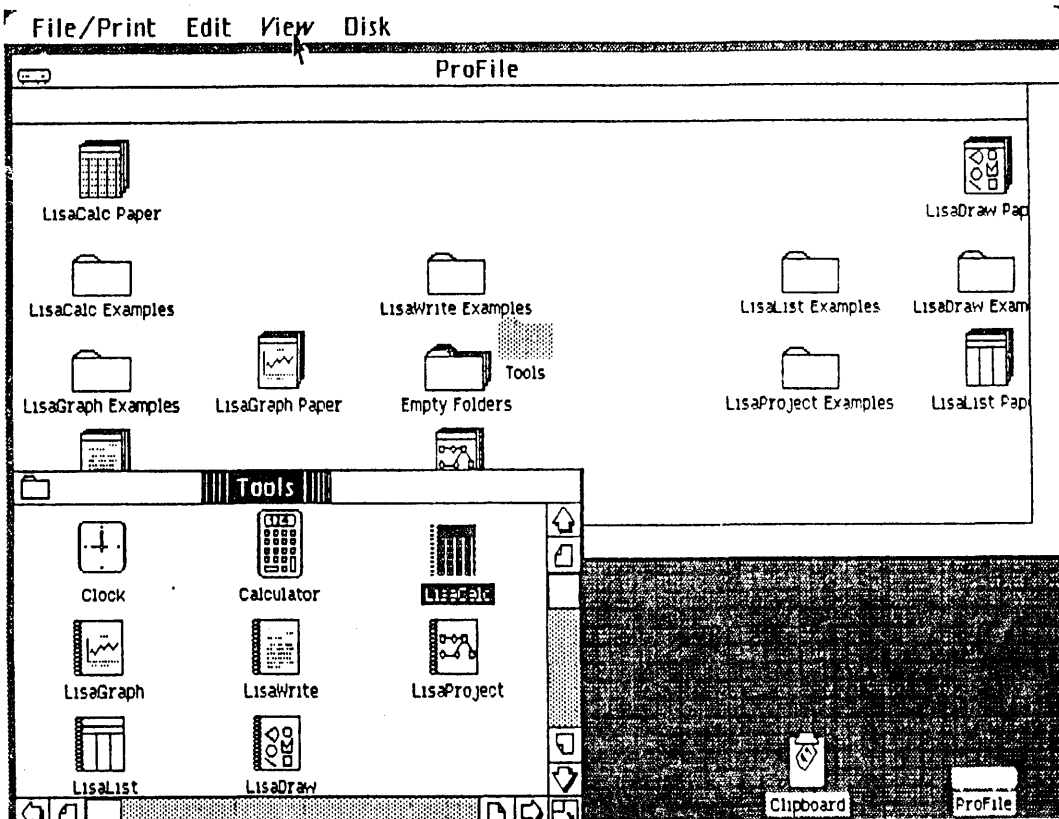

FIGURE 4
Each tool diskette puts three icons onto the ProFile: a **pad of paper** (e.g. "LisaCalc Paper"), a **file folder** of examples (e.g. "LisaCalc Examples"), and a **spiral notebook** (e.g. "LisaCalc"). (Find these items in Figure 4 to see what the different icons look like.) When you first open the ProFile window after installing the software, these icons will be stacked one on top of another, so that many will not be visible. They need to be unstacked and repositioned to match the diagrams in the user training materials. To do that, follow the steps below.
6. Open the new Tools folder (double-click), and use the mouse to give the Tool and ProFile windows the size and shape shown in Figure 4. Position them so that they overlap as little as possible.
7. The **tool icons** are the spiral pads labelled "LisaWrite," "LisaDraw," etc. You can identify them by the spiral along the left side of the icon. Use the mouse to move the tool icons, and the Clock and Calculator, from the ProFile window onto the Tool window, in the positions shown in Figure 4.
8. Make sure the Tools window is active (title should be white-on-black as in Figure 4; if not, click once anywhere on Tools window). Pull down the View menu and select "Straighten Up Icons". (If the icons rearrange themselves into more or fewer columns than you had planned, the window is too wide or too narrow: use the mouse to change its size. Then repeat steps 7 and 8.)